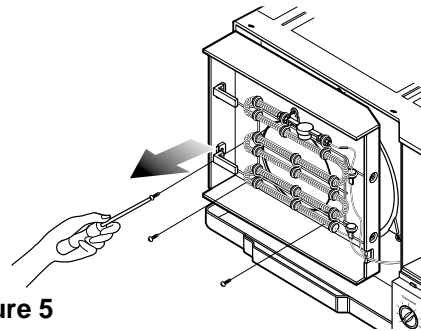

Figure 5
4. Remove the 2 terminals carefully (See Fig. 5, Electric Heater Model only)
5. Remove the 3 screws which fasten the Heater Cover. (See Fig. 5, Electric Heater Model only)
6. Remove the Heater Cover. (See Fig. 5, Electric Heater Model only)